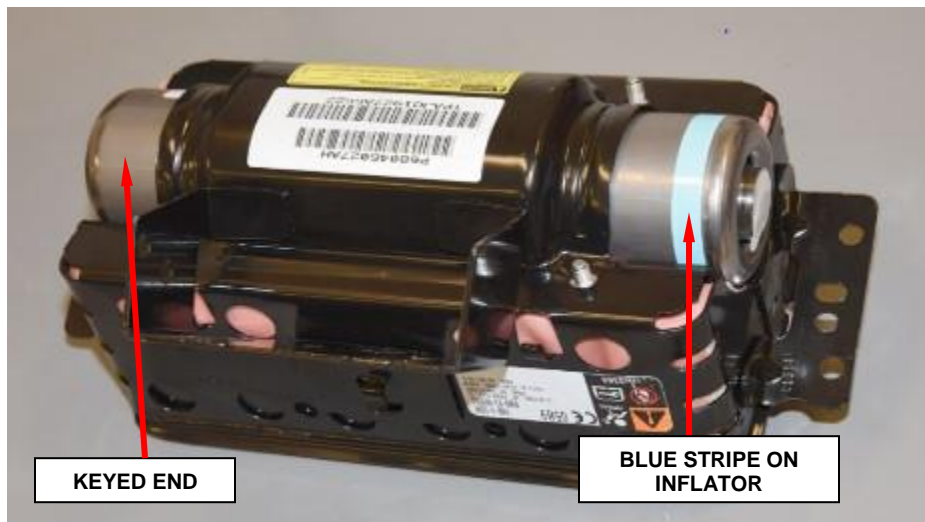

Figure 45 – Insert Inflator (Shown with Cushion Installed)
- h. Slide **new** inflator into housing. The keyed end is inserted first, therefore the blue stripe on the inflator will be located at the open end, as shown (Figure 45).